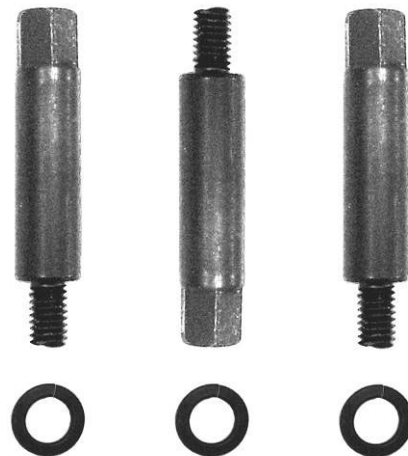
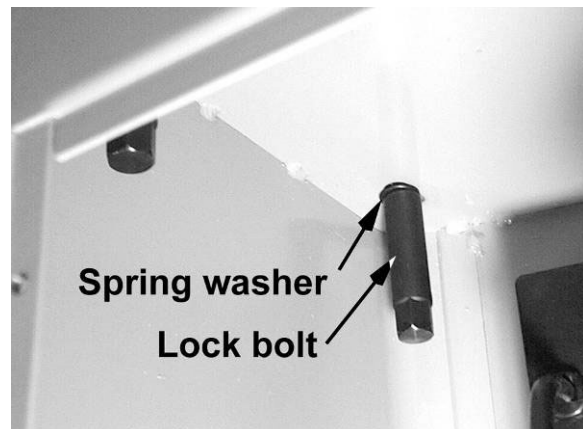

Figure 3
Figure 4
2. Use three lock bolts and spring washers (Figure 3) to firmly fasten the jointer to the stand. The bolts are threaded up through the holes in the stand into the base of the jointer (Figure 4).